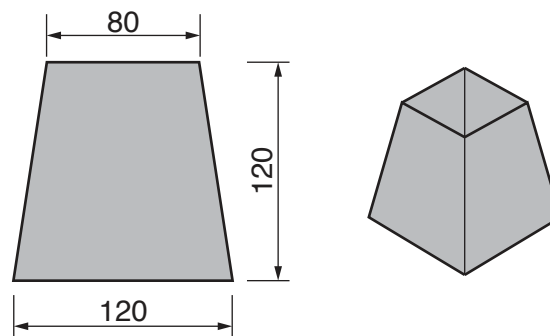

Fig. 15
(c) Fig. 15 shows one of the four sides that will be joined together to make the lamp shade. The sides are made from 3 mm thick veneered plywood.
- (d) The lamp shade shown in Fig. 15 could be made from brass.